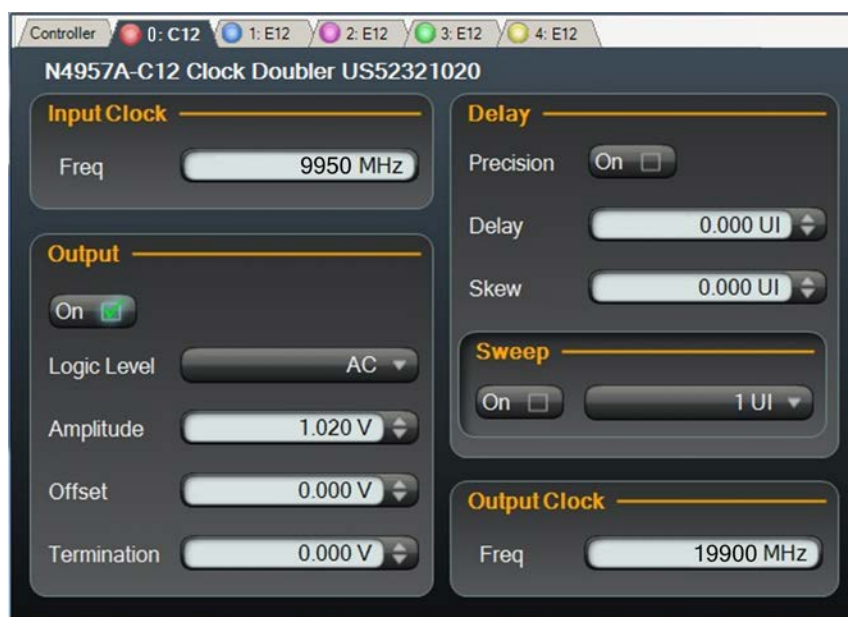

Figure 6. N4957A-C12 control panel
11. Under **Input**, click on the **Pattern** drop down list box and select the **PRBS 2³¹-1** pattern as shown in Figure 6.